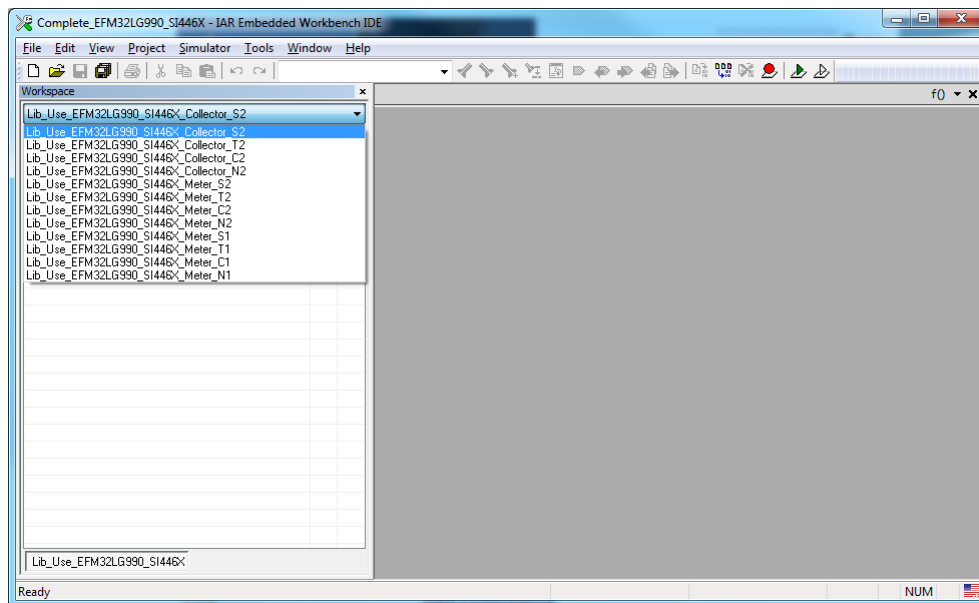

Figure 20: Workbench configuration
4. There are different configurations available in the workspace window: One for the meter device and one for the collector device with the different supported modes. Refer to figure 20 for the selection.